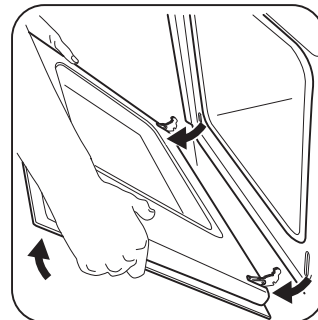

Figure 23: Holding door for removal
3. Firmly grasp both sides of oven door along the door sides. Do not use the oven door handle. Close the oven door halfway to the first opening position. Then, pull forward and remove the door from its seat (Figure 23).
1. Firmly grasp both sides of oven door along the door sides. Do not use the oven door handle (Figure 23).